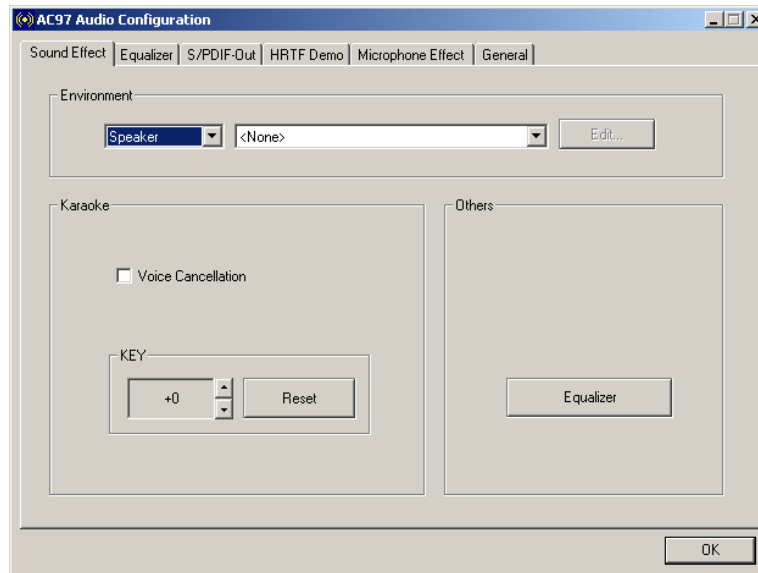

Figure H-3: Sound Effects Manager (ALC655)
Step 3: The sound effect manager appears (**Figure H-3**).
The Sound Effect Manager shown in **Figure H-3** is for the Realtek ALC655 audio Codec. Different Codecs may have different sound manager appearances.
The **Sound Effects Manager** enables configuration of the items listed below. To configure these items click the corresponding menu tab in the **Sound Effects Manager** (**Figure H-3**).